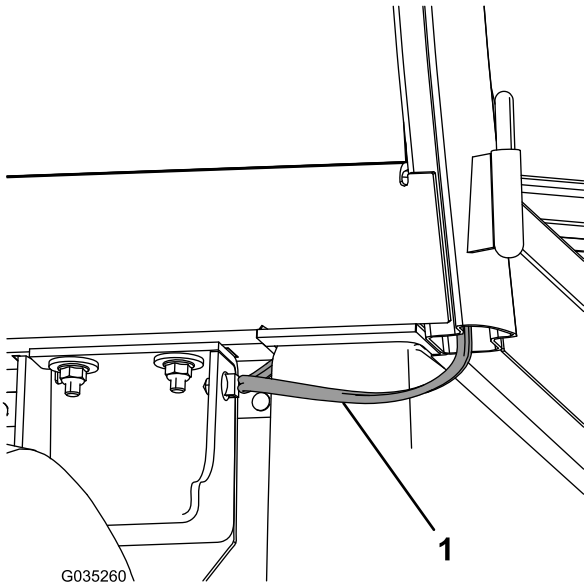

Figure 19
- Route the wire harness behind the cab and under the seat, and secure the clip on the wire harness to the side panel (Figure 19).